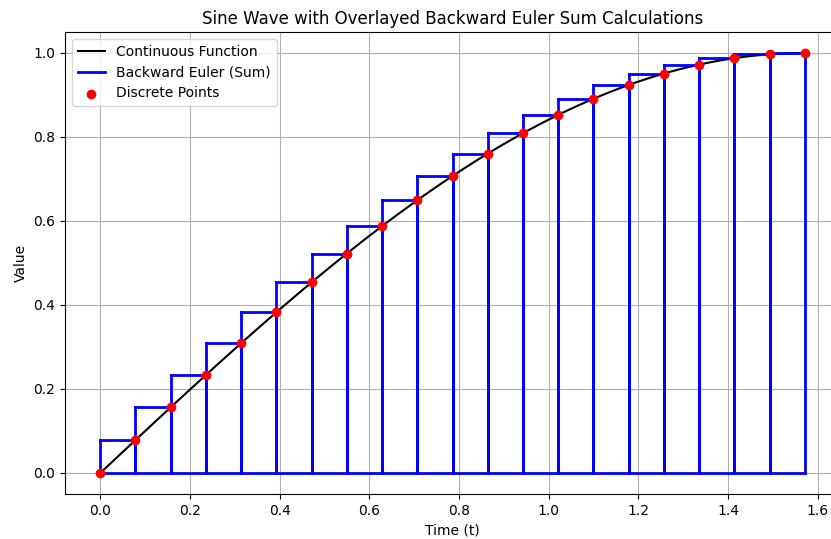

Figure 5: Backward Euler Discretization of the Integral Term
- The integral term accumulates the error over time, summing up all past errors. Applying a control signal proportional to the integral-error helps reduce steady-state error. To approximate this integral, we use the commonly-chosen Backward Euler method [1], which updates the integral (sum) by adding the product of the current error and the timestep. Note that the computation of the `i_term` comes after the addition of the integral in this approximation. See Figure 5 for a visual representation of the Backward Euler method.